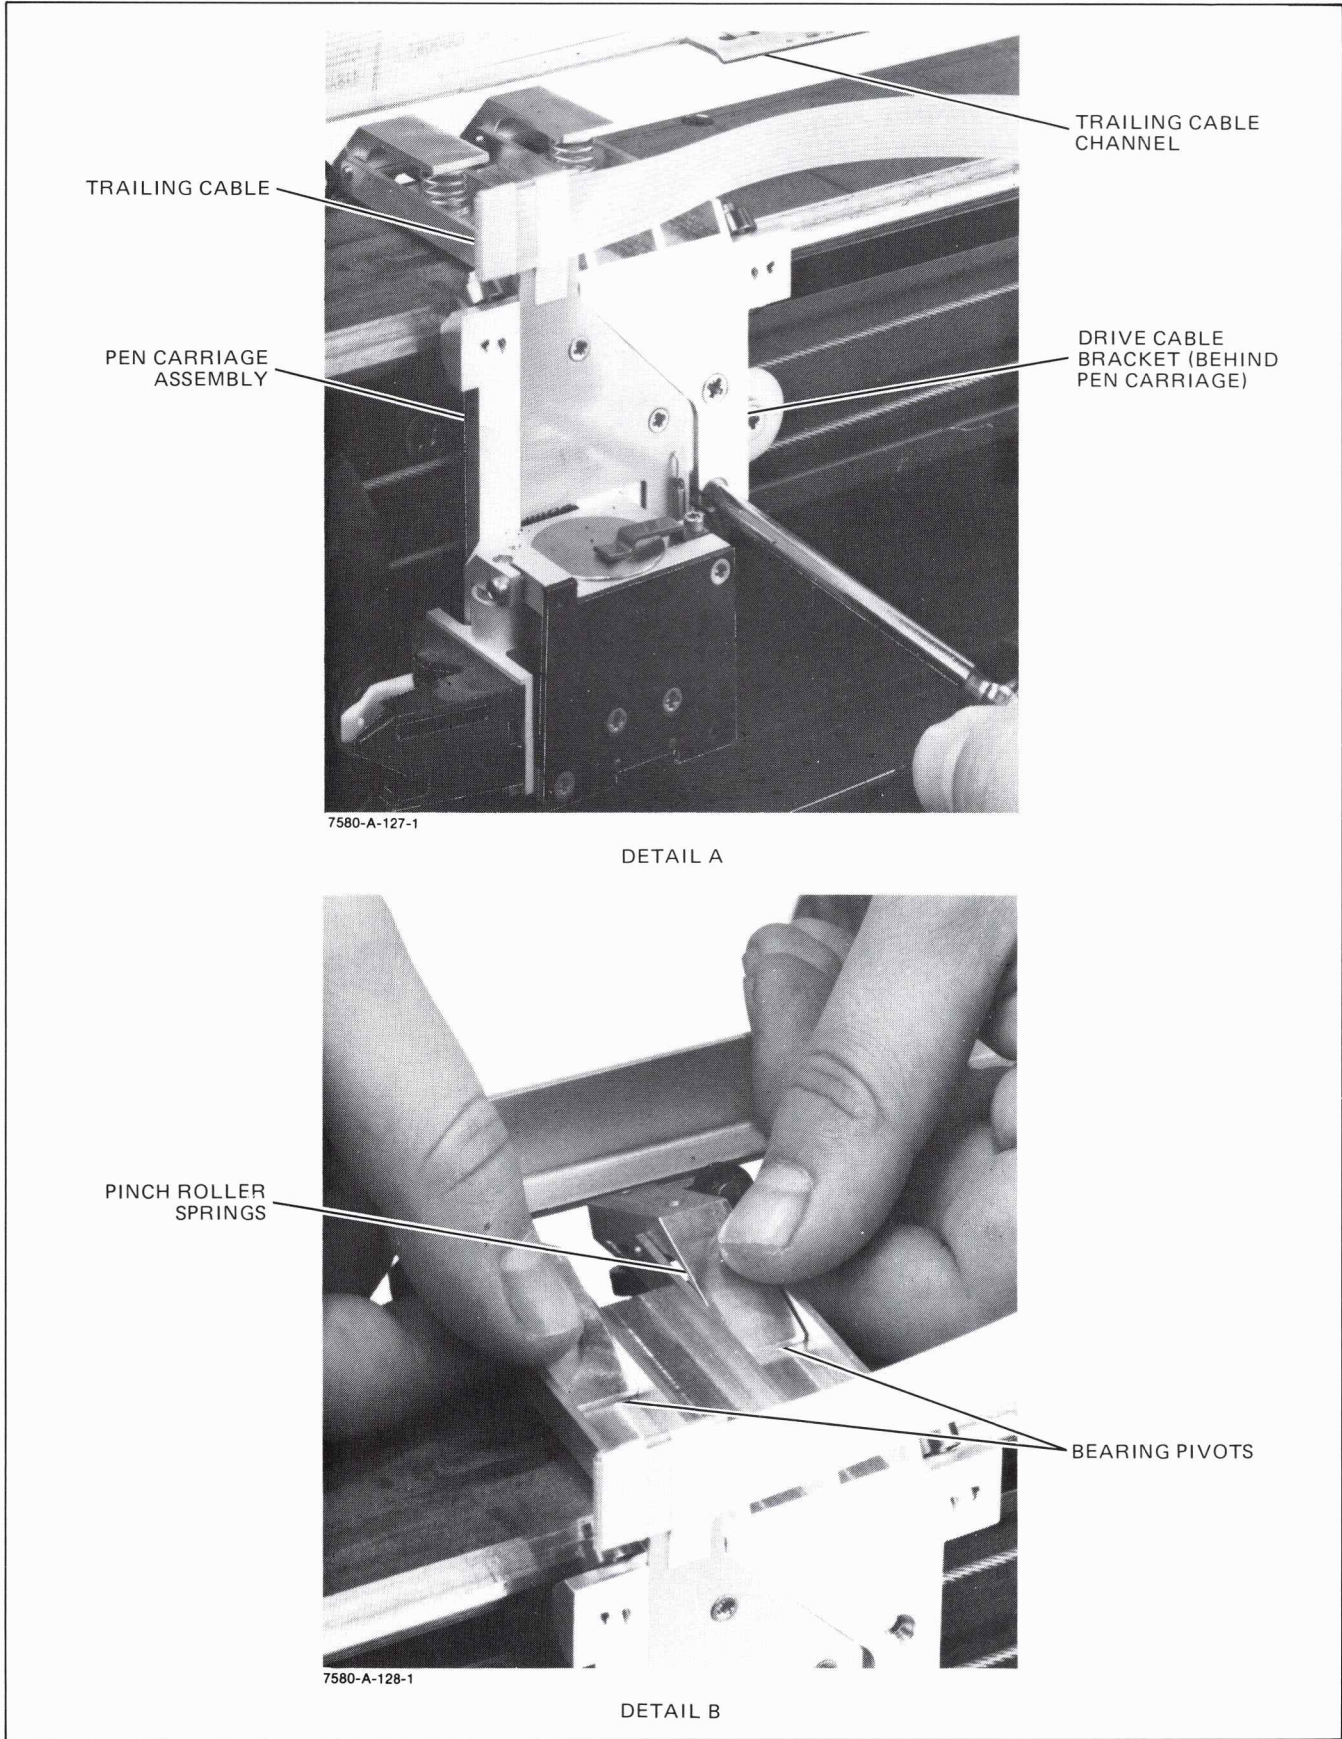

Figure 6-10. Pen Carriage Replacement
- d. Using the short length, wind seven (7) turns from the center crimp toward the Y-spur gear end of the bobbin. Tape cable to prevent unwinding.
- l. Wind seven (7) turns of the short length around the bobbin toward the end opposite the Y-spur gear (passing the cable in front of the bobbin) and insert the cable end crimp in the hole in the bobbin.
- n. Remove the two screws securing the pen carriage to the drive cable bracket as shown in Figure 6-10, Detail A.
- o. As shown in Figure 6-10, Detail B, compress the two pinch roller springs which apply pressure to the two bearing pivots on top of the carriage. Rotate the carriage forward slightly and remove it from the Y-arm.
- s. Align the pen carriage with the drive cable bracket and install the two mounting screws as shown in Figure 6-10, Detail A.